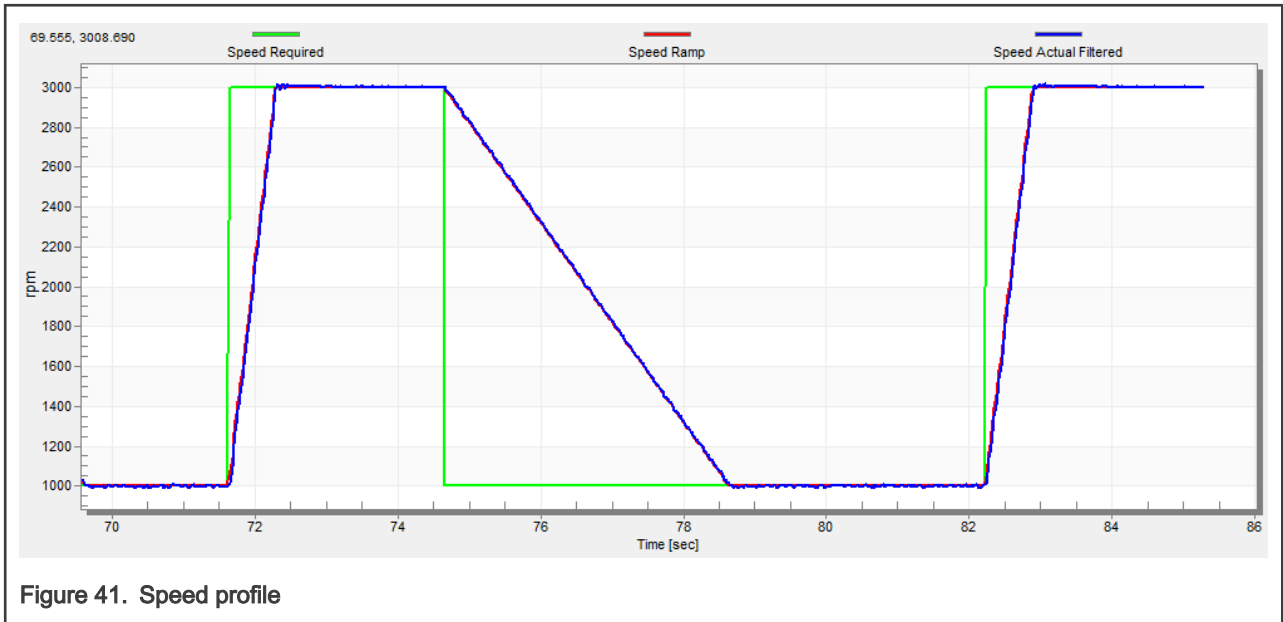

Figure 41. Speed profile
2. The increments are common for the scalar and speed control. The increment fields are in the “Speed & Pos” tab and accessible in both tuning modes. Clicking the “Update Target” button applies the changes to the MCU. An example speed profile is shown in Figure 41. The ramp increment down is set to 500 rpm/sec and the increment up is set to 3000 rpm/sec.